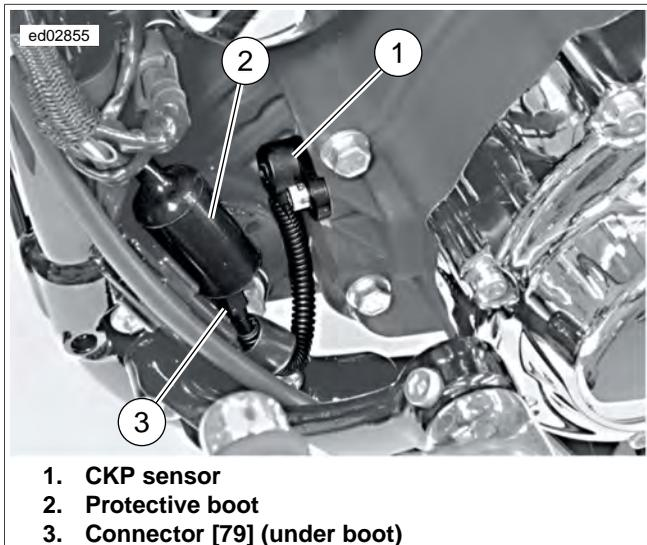

Figure 4-46. CKP Sensor Location
See Figure 4-46. The Crankshaft Position (CKP) sensor (1) is located on the front of the left engine crankcase. The sensor harness connector [79] (3) is located under a protective boot (2) behind the front left frame downtube.